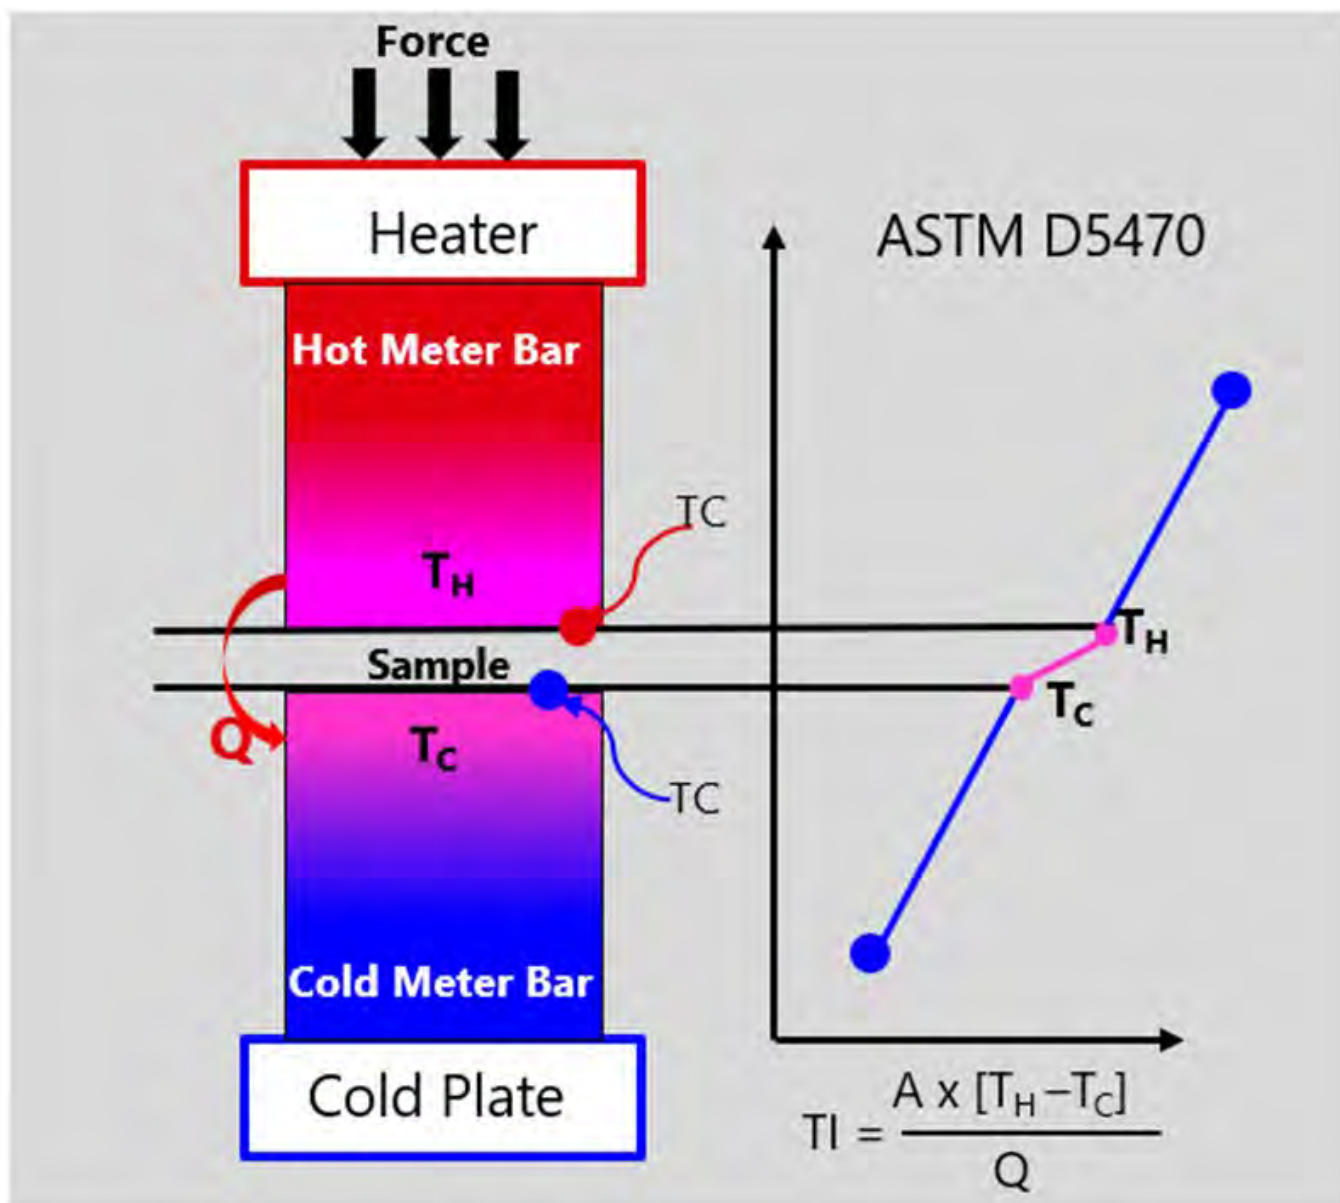

Figure 4. Schematic of steady state thermal test method.
A typical ASTM D5470 test setup to obtain effective thermal conductivity is shown in **FIGURE 4**.
**Assembly (test) pressure effect.** Assembly pressure effect test was conducted using the same test setup as shown in Figure 4. A typical sample condition before and after testing is shown in **FIGURE 9** for a 125-mils thick sample. As expected, at higher pressure, the sample becomes much thinner and squeezes out to the outside perimeter of the test fixture.